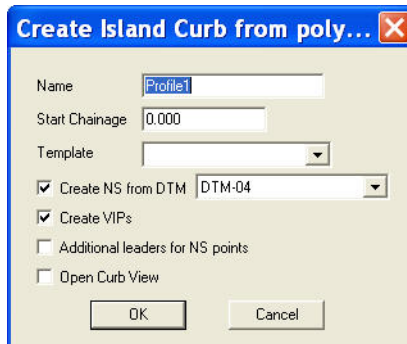

Figure 13-62. Create a Curb Island From a Polyline
- Click **OK**. The *Create Island Curb from polygon* dialog box appears (Figure 13-62 on page 13-52).